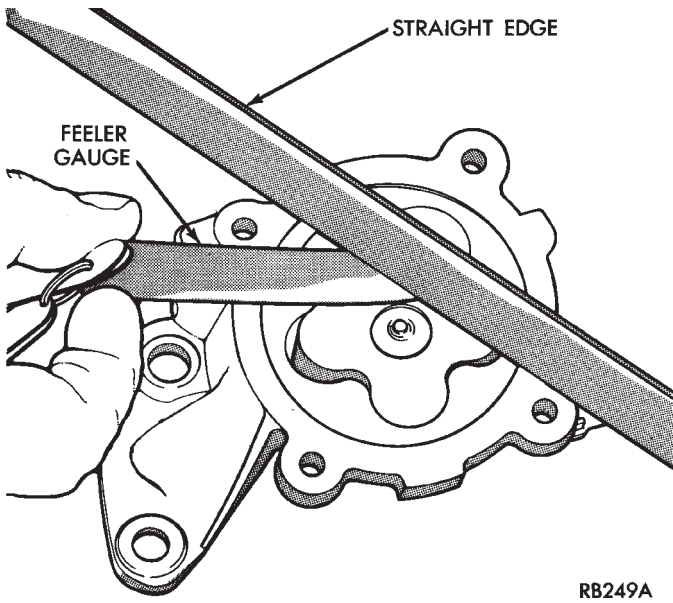

Fig. 8 Checking Rotor End Clearance
(1) Check rotor end clearance with feeler gauge as shown in (Fig. 8).